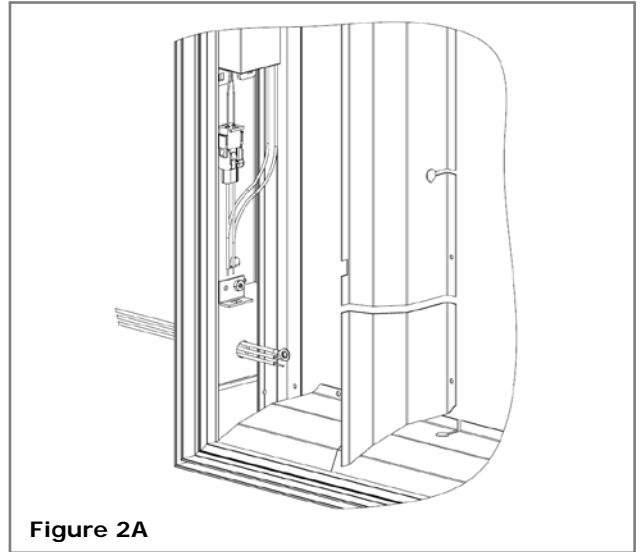

Figure 2A
1. If keyholes have been provided, hold the unit against the wall in the desired location and mark the positions of the mounting screws through the tops of the keyhole slots. **See Figure 2A and 2B.**
2. Using ¼" drill bit, drill through the marks and install the plastic anchors. **See Figure 2A and 2B.**